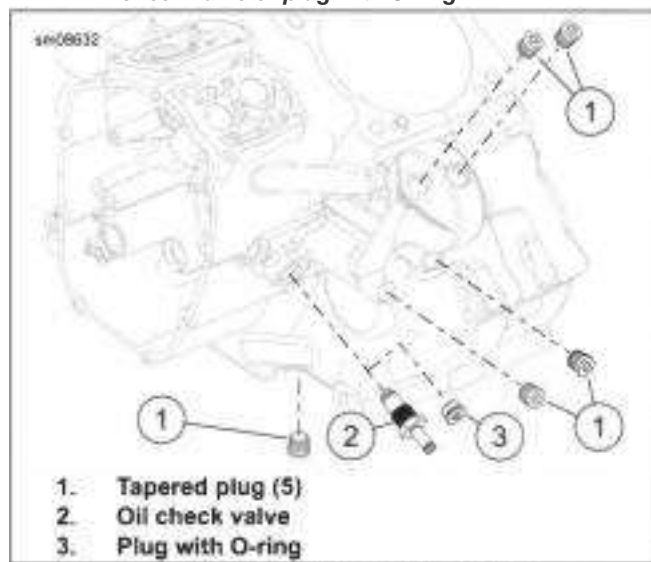

Figure 4-77. Crankcase Pipe Plugs
See Figure 4-77. Turn pipe plug or oil check valve counterclockwise to remove.
1. See Figure 4-77. Install tapered plug (1).